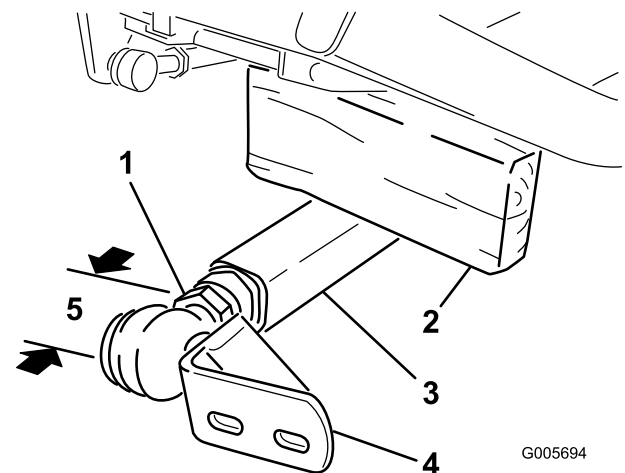

Figure 20
3. Have a helper push down on the left push arm. Then insert a 2 x 4 inch (51 x 102 mm) block of wood between the frame and top of the push arm (Figure 20). Screw ball joint into left hand push arm until center of ball joint is 2-3/8 inch (60 mm) away from front of push arm (Figure 20). Do not tighten jam nut.